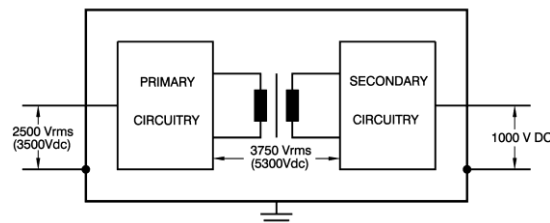

Figure 6.3: Insulation test voltages, depending on model.
- The insulation between AC input and DC output is verified during manufacturing by testing the separating components at 3750 V_{RMS} (5300 V_{DC}) for one minute. See Figure 6.3 for a schematic.